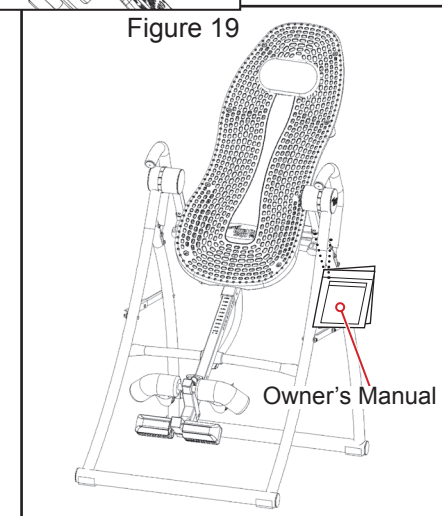

Figure 20
- Hang the Owner's Manual over one of the handles for future reference (Figure 20).